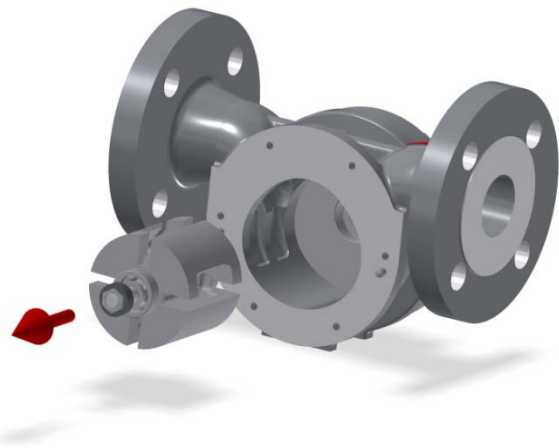

Figure 34 – Removing the rotor
3. Remove the rotor from the housing by gently pulling on the magnet in the direction of the arrow, as shown in Figure 34.